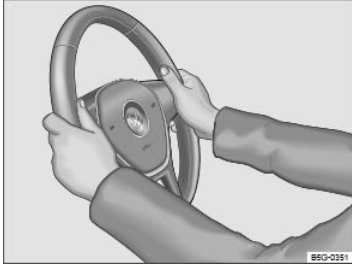

Fig. 77 Steering wheel: 9 o'clock and 3 o'clock positions.
- Adjust the steering wheel so that it can be held with hands at the 9 o'clock and 3 o'clock positions on the outside of the steering wheel rim and with the arms slightly bent at the elbow ⇒ Fig. 77.
- Always hold the steering wheel on the outside of the steering wheel rim with your hands at the 9 o'clock and 3 o'clock positions ⇒ Fig. 77 to help reduce the risk of serious personal injury if the driver's airbag inflates.